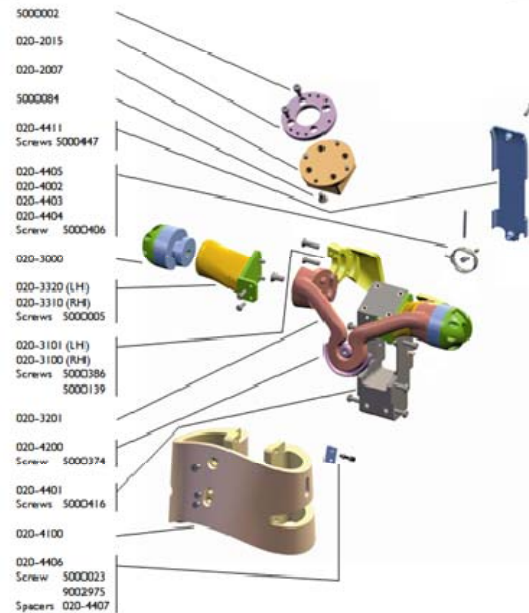

Figure 7: Q3 Thorax Assembly (Part of torso assembly 020-4400)
*) Items marked are not shown in Figure 7, but in Figure 8 (Shoulder Assembly).